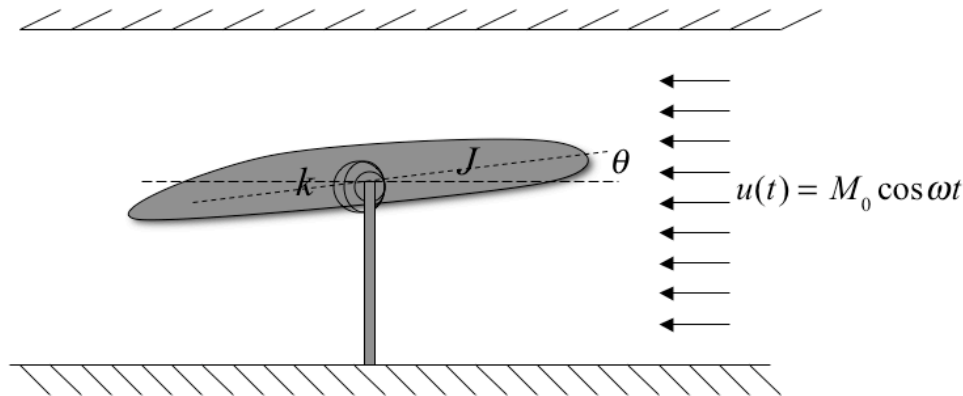

Figure P2.15 Vibration model of a wing in a wind tunnel
- 2.15** An airfoil is mounted in a wind tunnel for the purpose of studying the aerodynamic properties of the airfoil's shape. A simple model of this is illustrated in Figure P2.15 as a rigid inertial body mounted on a rotational spring, fixed to the floor with a rigid support. Find a design relationship for the spring stiffness k in terms of the rotational inertia, J , the magnitude of the applied moment, M_0 , and the driving frequency, ω , that will keep the magnitude of the angular deflection less than 5° . Assume that the initial conditions are zero and that the driving frequency is such that $\omega_n^2 - \omega^2 > 0$.